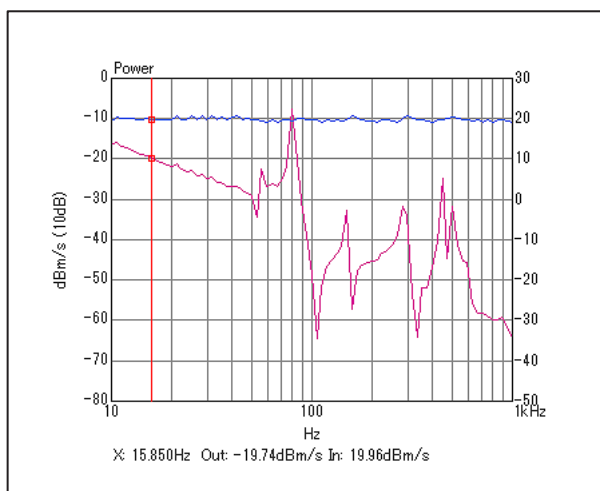

Figure 6: Power spectrum of Ch1 and Ch2 of sine sweep
- Press the [START] button of the command tool bar and start measurement. The figure 6 is the power spectrum of reference acceleration (Ch1, blue line) and frequency vibration speed (Ch2, pink line). The vibration is performed at an almost the constant value (20 dB, 10 m/s²).